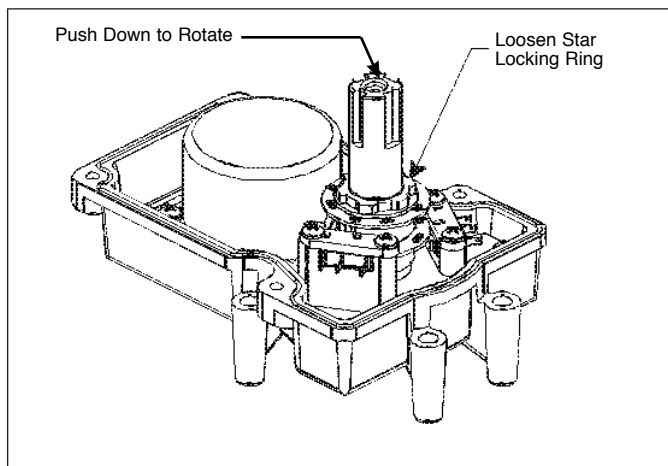

Figure 5. Cam Adjustment.
4. Remove four screws and Actuator lid in order to gain access to cam/motor compartment. (See figure 5)